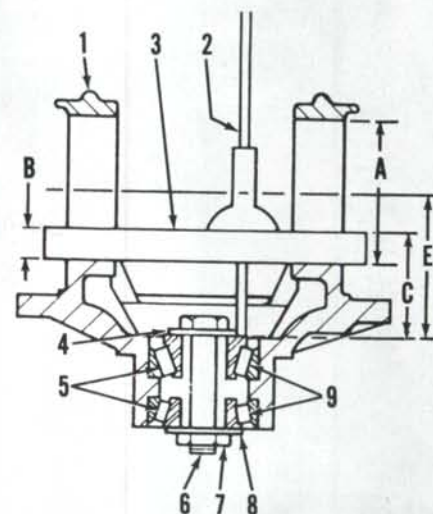
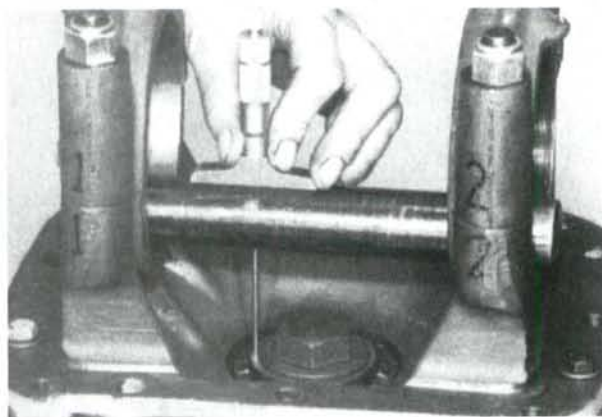

Fig. 27—Diagram showing method of securing pinion bearings in support housing to allow depth gage measurement to be taken.
Fig. 28—View showing proper depth gage and pilot shaft placement used in determining pinion shaft protrusion.
35. PINION SHAFT PROTRUSION AND BEARING PRELOAD. To set pinion shaft protrusion, install bearing cups and cones in carrier housing. Use a bolt, washers and nut as shown in Fig. 27 to hold bearing cones in place. Tighten bolt and nut until bearing cones are difficult to turn.
Install carrier bearing caps (1—Fig. 27) on carrier housing and tighten nuts to 205 N·m (150 ft.-lbs.) torque. Measure and record diameter of bearing bore (A). Place a shaft (3), having a diameter of at least 25 mm (1 inch) and having a cross hole drilled through it, across bearing bores as shown in Fig. 27. Measure and record diameter (B) of shaft. Using a depth gage measure from top of shaft to face of inner bearing cone (Fig. 28) and record measurement (C—Fig. 27).
To determine correct thickness of shims (11—Fig. 25) required to obtain desired shaft protrusion, use the following calculations: Subtract diameter of shaft (B—Fig. 27) from depth gage measurement (C). Add this figure to one-half the diameter of carrier bearing bore (A). The result is dimension (E). Then subtract dimension etched on pinion shaft gear face (dimension is in millimeters) from dimension (E). The resulting dimension will be correct shim (11—Fig. 25) thickness to install to properly set pinion shaft protrusion.